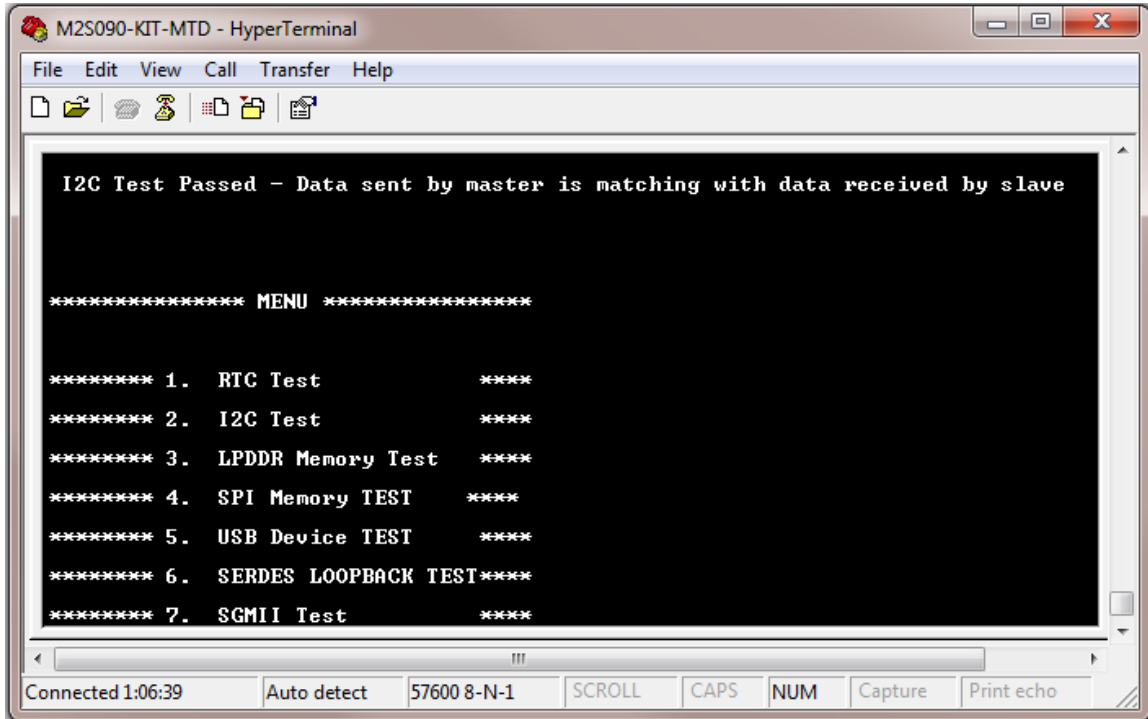

Figure 40 I2C Test Passed
5. Press 2 to run the I²C loopback test. Refer to Figure 40.